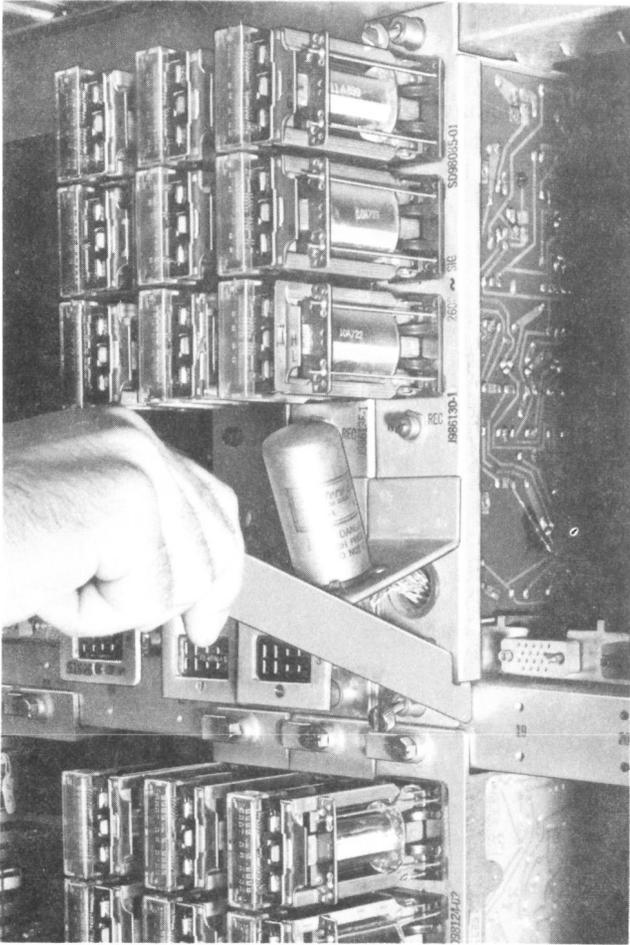

Fig. 1—Method of Removal of Fabricated Chassis
- 3 Remove signaling unit from its in-service position, using 725A tool as shown in Fig. 1 or 2.